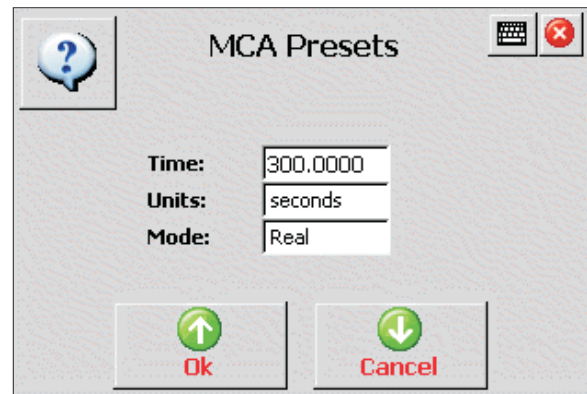

Figure 35 A Typical Parameters Dialog
- This will open the MCA Presets dialog (Figure 35).
To navigate a Parameters Dialog, such as MCA Presets (Figure 35):